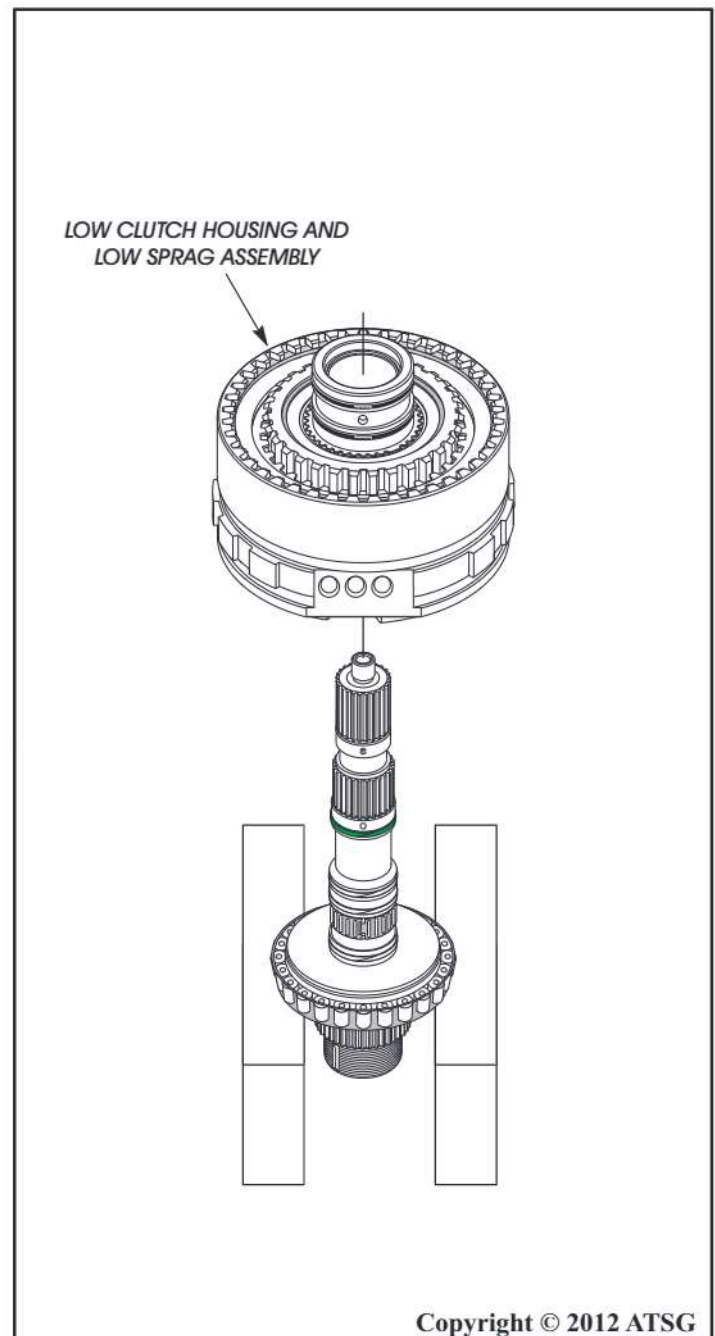

Figure 131
13. Remove the low clutch housing and low sprag from the underdrive center shaft as an assembly, as shown in Figure 131, and set aside for the low clutch sub assembly.